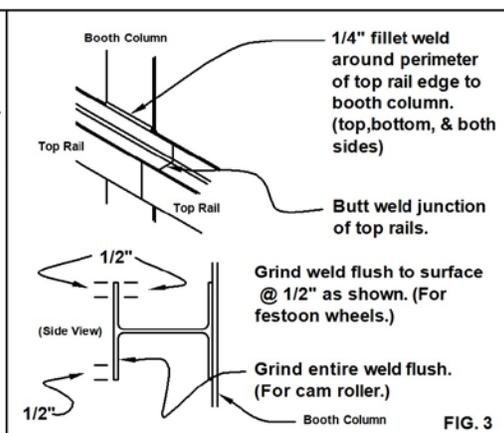

FIG. 3
- C. Weld the top rail to the vertical rail supports (see figure 3). The welds should be continuous  $\frac{1}{4}$ " fillet weld around the perimeter of the contact surfaces.